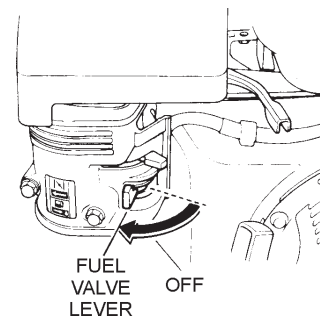

Figure 19. Fuel Valve Lever (OFF)
3. Place the **fuel shut-off lever** (Figure 19) in the "OFF" position.